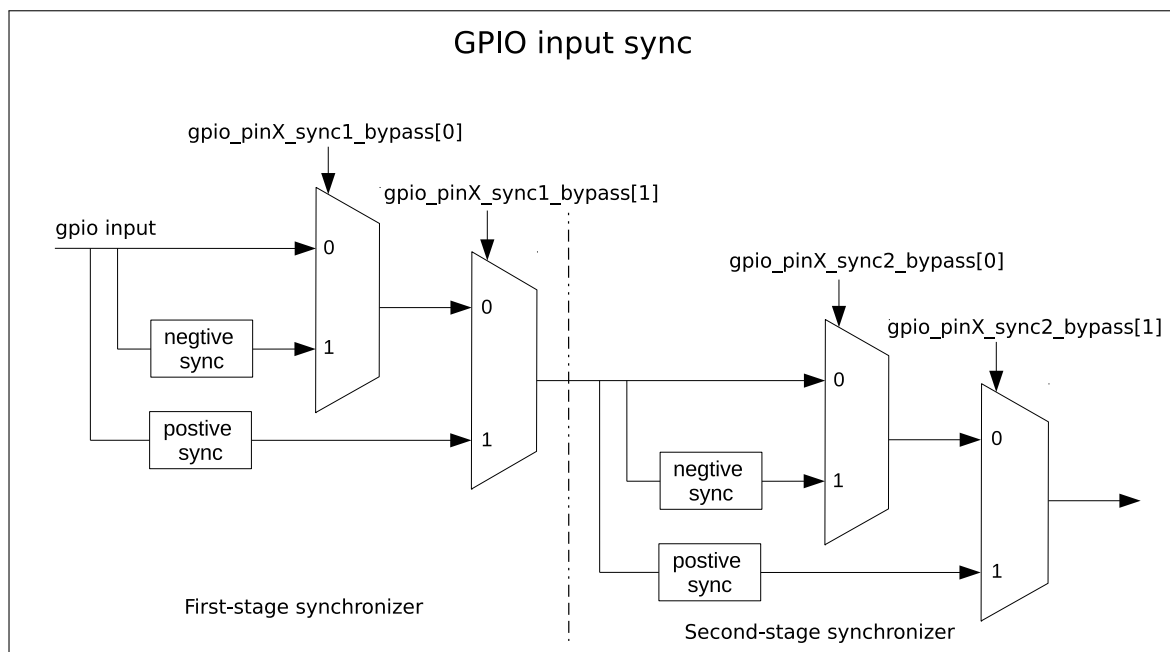

Figure 6.4-1. GPIO Input Synchronized on APB Clock Rising Edge or on Falling Edge
Figure 6.4-1 shows the functionality of GPIO SYNC. In the figure, negative sync and positive sync mean GPIO input is synchronized on APB clock falling edge and on APB clock rising edge, respectively.
- Set `GPIO_PIN x _SYNC1_BYPASS` to enable input signal synchronized on rising edge or on falling edge in the first clock, see Figure 6.4-1.
- Set `GPIO_PIN x _SYNC2_BYPASS` to enable input signal synchronized on rising edge or on falling edge in the second clock, see Figure 6.4-1.